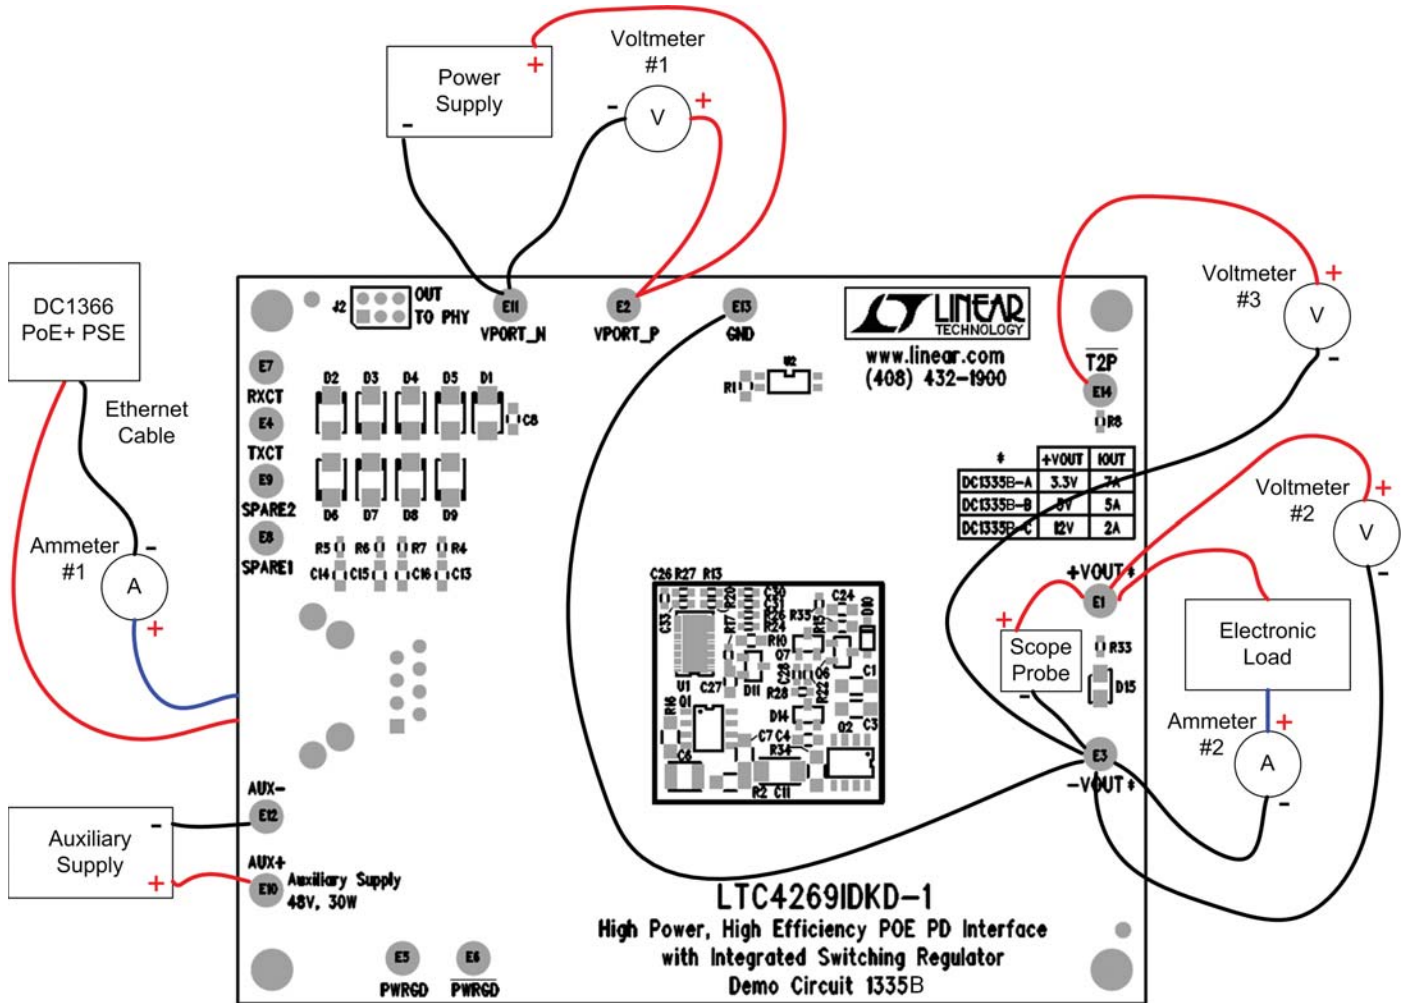

Figure 1. Proper Measurement Equipment Setup
Demonstration circuit 1335B-B is easy to set up to evaluate the performance of the LTC4269-1 in a PoE+ PD application. Refer to Figure 1 for proper equipment setup and follow the procedure below:
- a. Connect a PoE+ capable PSE with a CAT-5 cable to the RJ45 connector, J1. See Figure 1.
- b. Or, connect a 37V to 57V capable power supply (Power Supply in Figure 1) across V_{PORT_P} and V_{PORT_N} .
- c. If evaluating the auxiliary power supply (Auxiliary Supply in Figure 1) capability, connect a 44V to 57V capable power supply across AUX^+ to AUX^- .